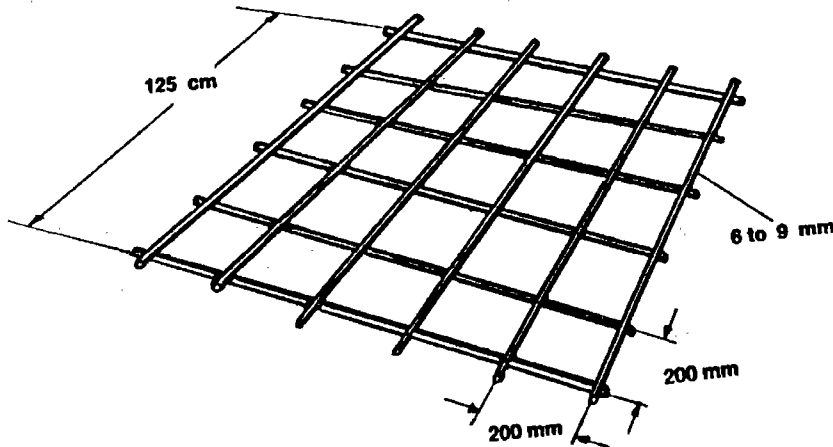

Figure 12. Reinforcement grid
- Make or cut a wire mesh or grid to lie inside the pit. The wires can be 6 to 9 millimetres thick and about 200 millimetres apart (see Figure 12). Cut a hole about 250 millimetres in diameter in the middle of the grid.